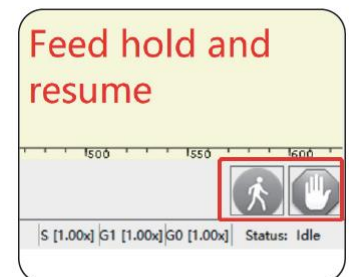

Figure 20 Feed hold and resume
- If you just want to pause while the laser is running and will resume unfinished work, you can click the feed hold and resume button as shown in Figure 20